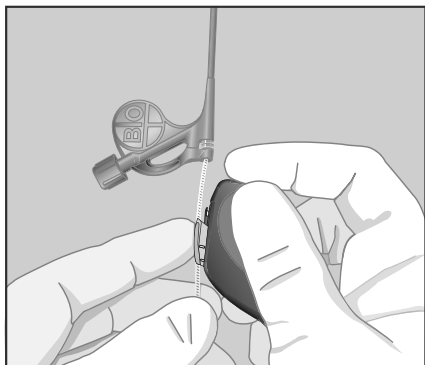

Fig. 2: Insert the lead into the open clamp
- 2 To open the clamp, press and hold the release key - see Figure 2.
- 3 With the other hand, insert the lead into the clamp - see Figure 2.